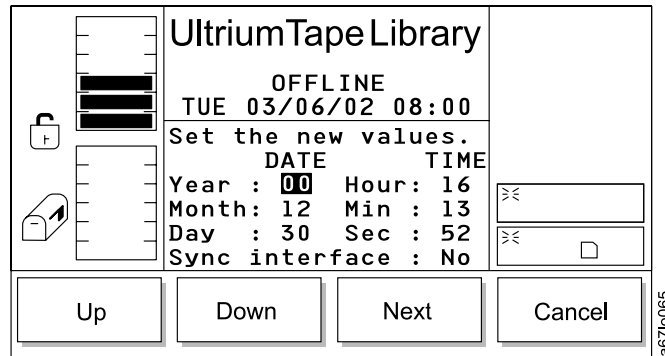

Figure 149. Date/Time Dialog
- If **Date/Time** is selected, the Date/Time Dialog displays (see Figure 149 on page 127).